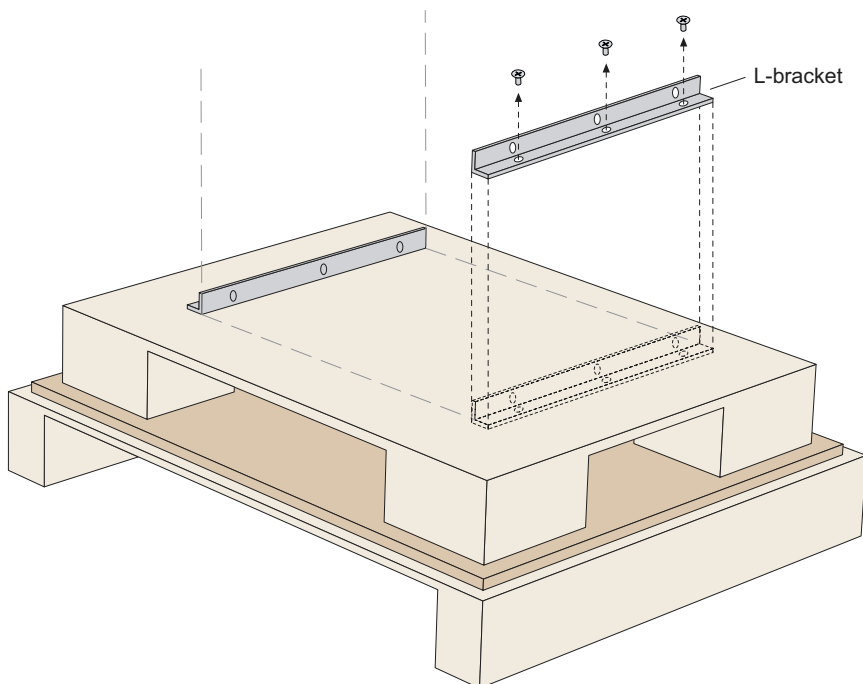

Figure 2-1 Removing an L-bracket
- 4 To avoid scratching the router when removing it from the skid, detach one of the L-brackets from the skid by removing the three screws. See Figure 2-1.